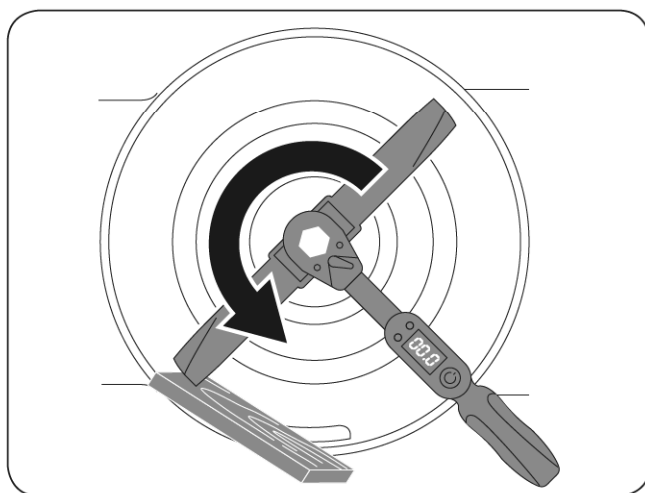

Figure 21
3. Tip the machine onto its side with the air filter and carburetor facing up. Use a block of wood to hold the blade steady. (See **Figure 21**)